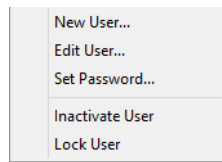

Figure 4-58: User Tab Menu
1. Position the cursor on the account and right-click to display the Tab menu (Figure 4-58).